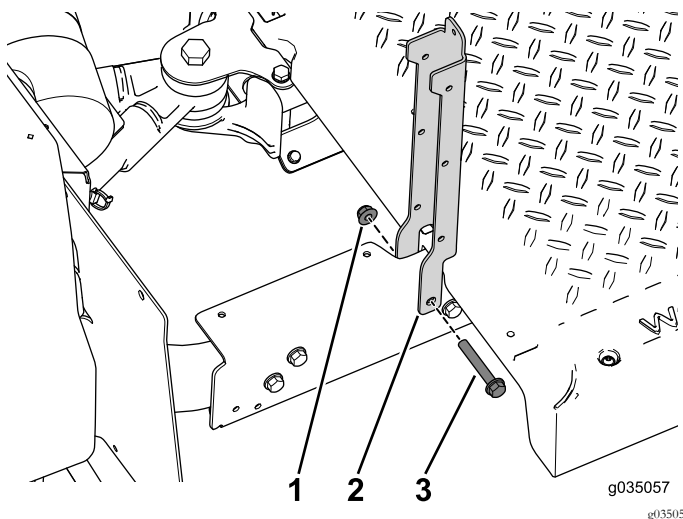

Figure 38
2. Use the 2 bolts (3/8 x 2-1/2 inches) and flange nuts to secure the seat supports on the rear section of the machine (Figure 38).